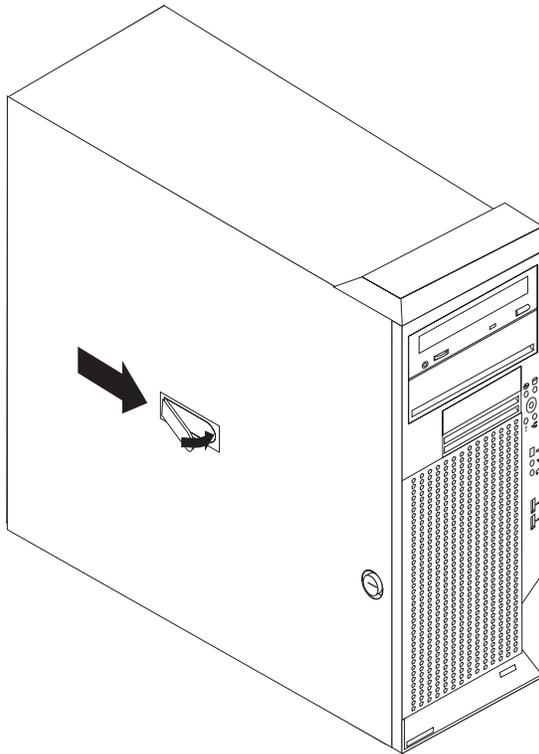

Figure 11. Installing the side cover
3. Install the side cover by placing it into position on the computer. Make sure that the lip on the bottom of the cover rests on the ledge on the bottom of the chassis before rotating the cover up to the vertical position. Press down on the cover-release latch as you slide the side cover forward (see Figure 11) to lock the side cover.